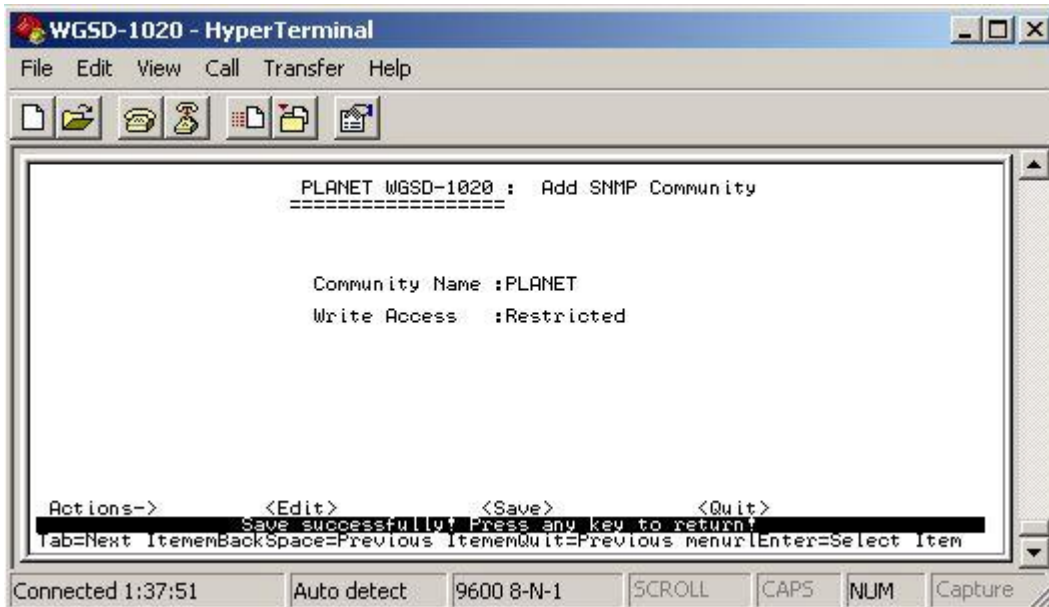

Figure 4-59 Add SNMP Community name save successfully screen
2. After setup completed, press” **Ctrl-A**” to “**Action menu**” and choose “**save**” to save the current configure. The screen in Figure 4-59 appears.